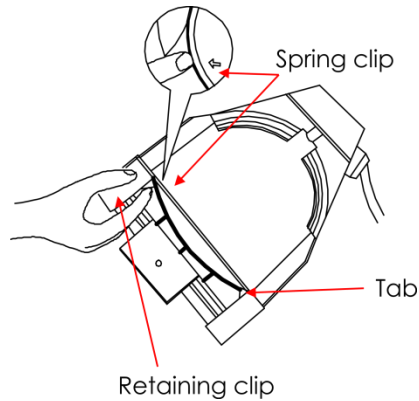

Fig. 10
- 04) Press the spring clip to release the lens (Fig.10).
- 01) Place the fixture with the front facing you. Tilt the fixture slightly (Fig.10).